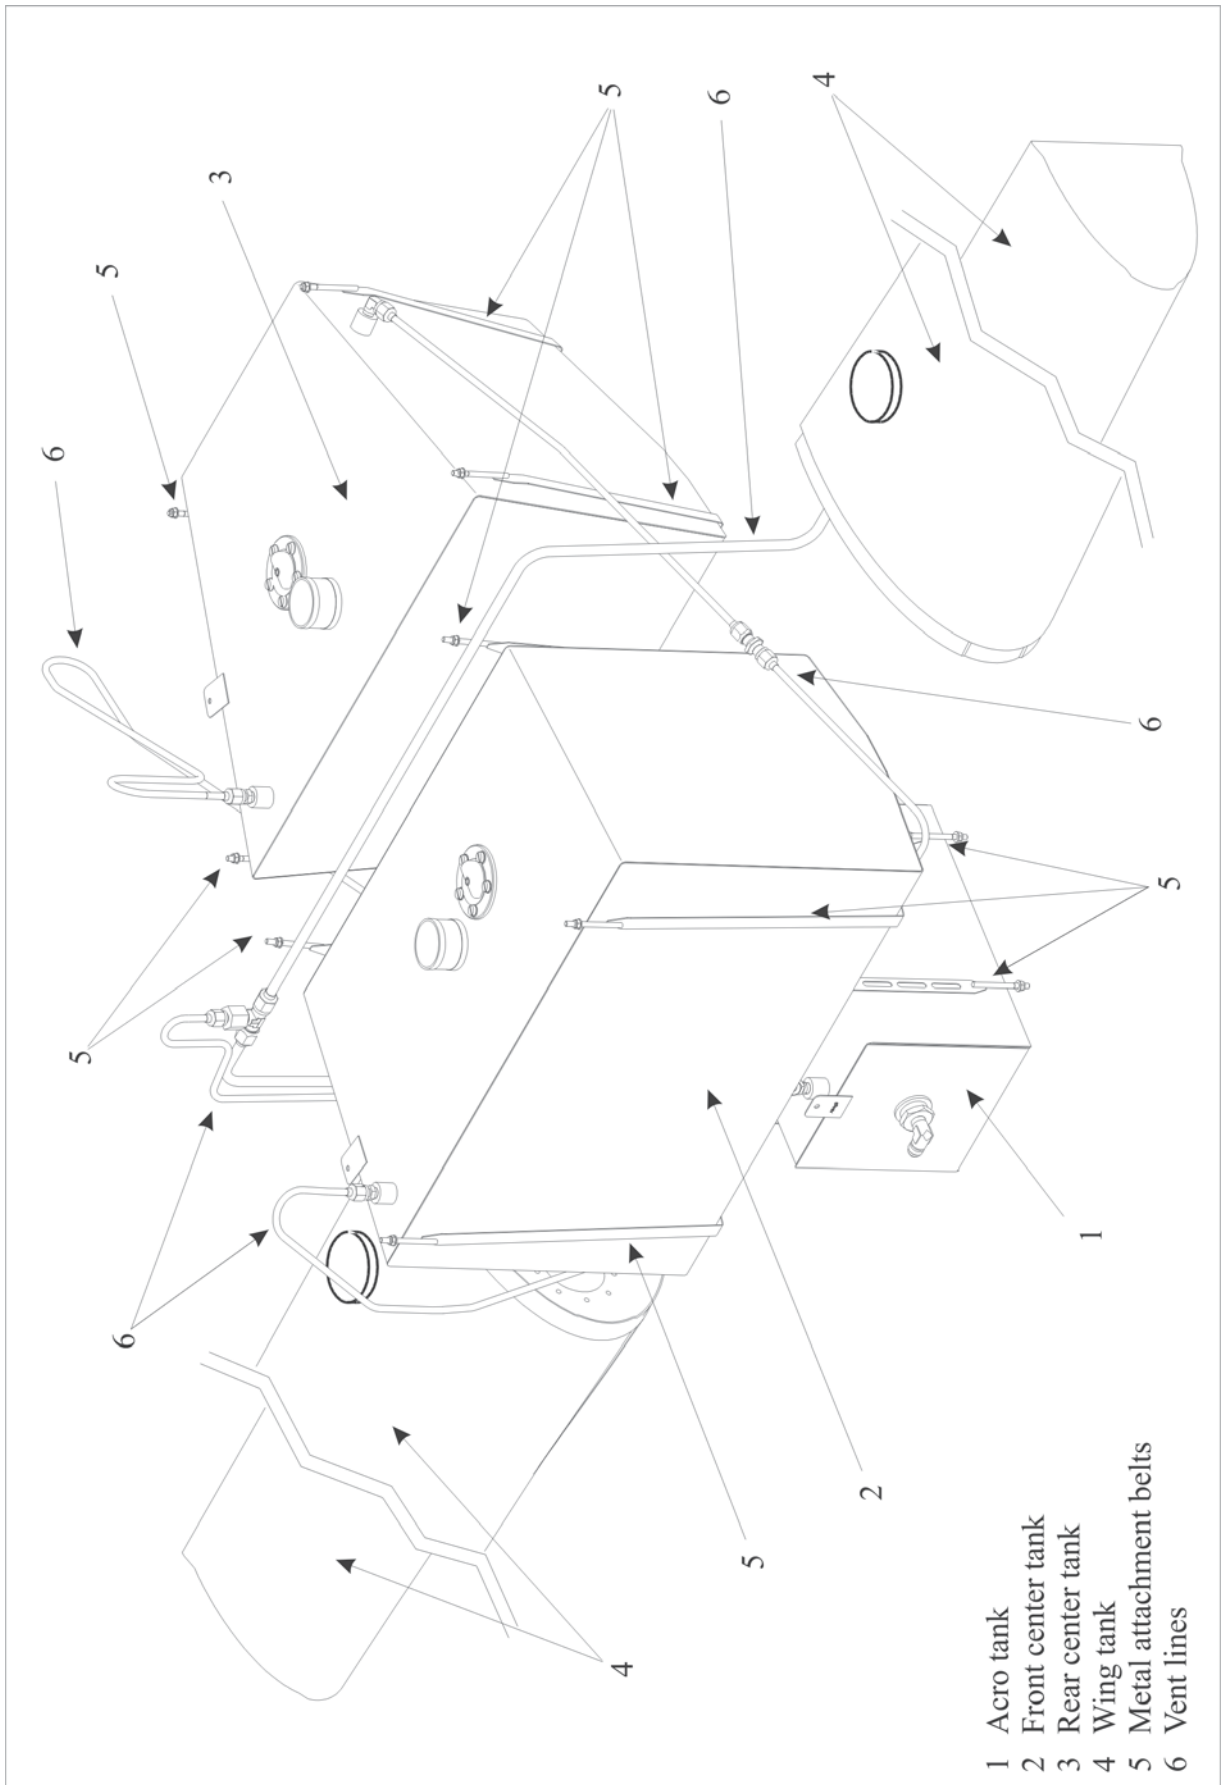

Figure 2
The acro tank (1, Figure 2) incorporating an inverted flight fuel supply system is mounted in the fuselage just behind the firewall. It is connected to the front (2) and rear (3) center tank by flexible hoses. The acro and center tanks are fastened to the fuselage by means of metal attachment belts (5). Fueling the center tanks is by means of two fuselage 2" diameter filler caps. For leak detection the acro and center tanks are furnished with a GRP tank shell. In case of leakage blue colored fuel is shining through. The acro and center tanks are grounded. The acro tank deaerates (6) into the rear center tank. Both center tanks deaerate by ventilation tubes (6) ending at the right side of the main landing gear spring.